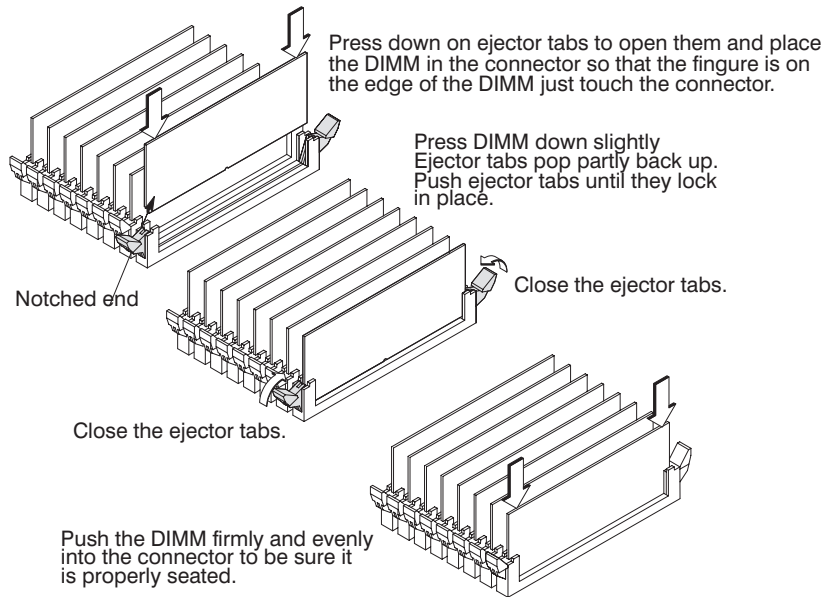

Figure B-25. Installing Memory Cards
9. Open the ejector tab by pressing down on it at the left of the connector. Refer to Figure B-25.